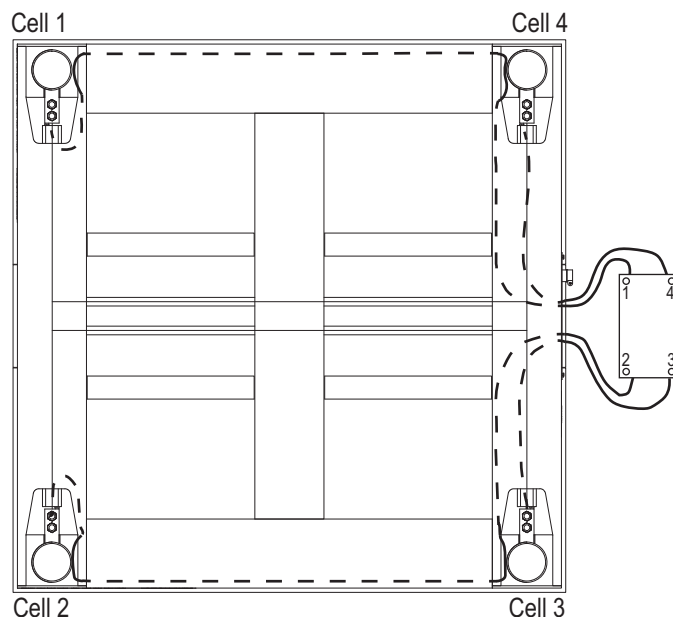
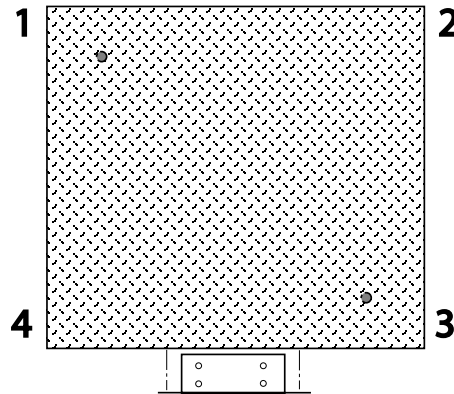

Figure 4-2. Bottom View of Scale
Figure 4-4. Corner Numbering - Top View
1. Remove the junction box cover and identify correct load cell terminal corresponding to each corner (labeled CELL 1, CELL 2, and so on). See Figure 4-4 on page 12 for scale deck corner numbering.
4. Thread the cable from each load cell through the conduit tubing in the frame and into the junction box according to the wiring diagram in Figure 4-2.
Note In Figure 4-2 both the scale and the junction box are viewed from the bottom. To verify correct load cell/junction box terminal matching, see the numbers on the terminals inside the junction box and the corner numbering diagram in Figure 4-4 on page 12.
The four load cells are each wired to their respective terminals in the junction box according to the corner numbering system shown in Figure 4-4, and the coloring code in Table 4-2.